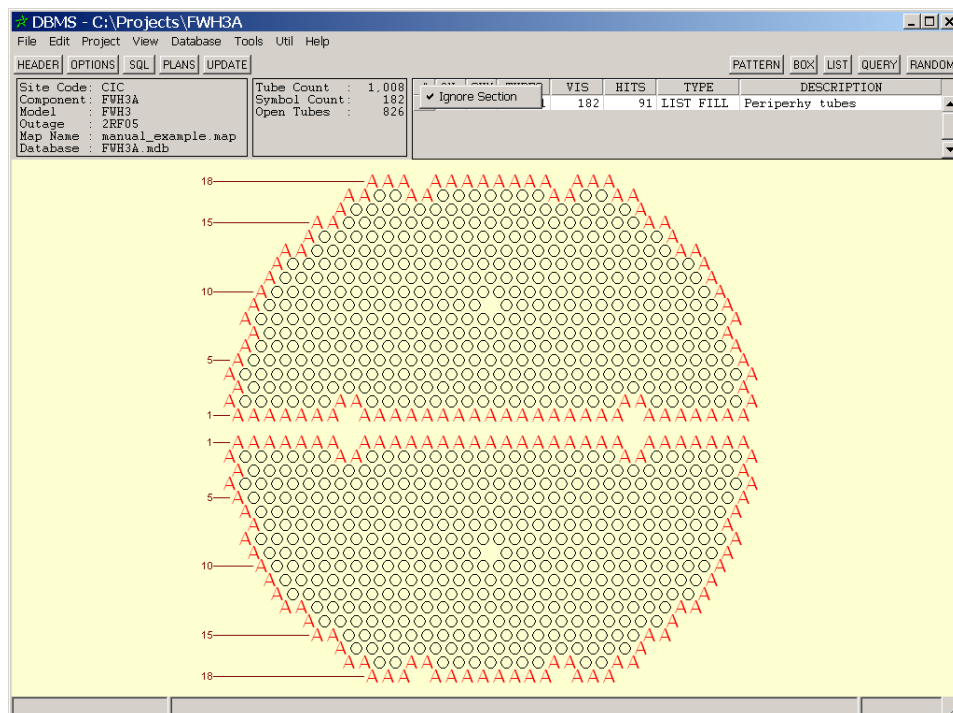

Figure 9-1. Periphery Plan in DBMS Screen
- STEP 6:** Right-click entry number **1** in the # column of the legend and click **Ignore Section** in the popup to enable it. When enabled, a checkmark appears next to **Ignore Section**. The same tubes as in the inlet pass now appear with symbols in the outlet pass as shown in Figure 9-1 below.